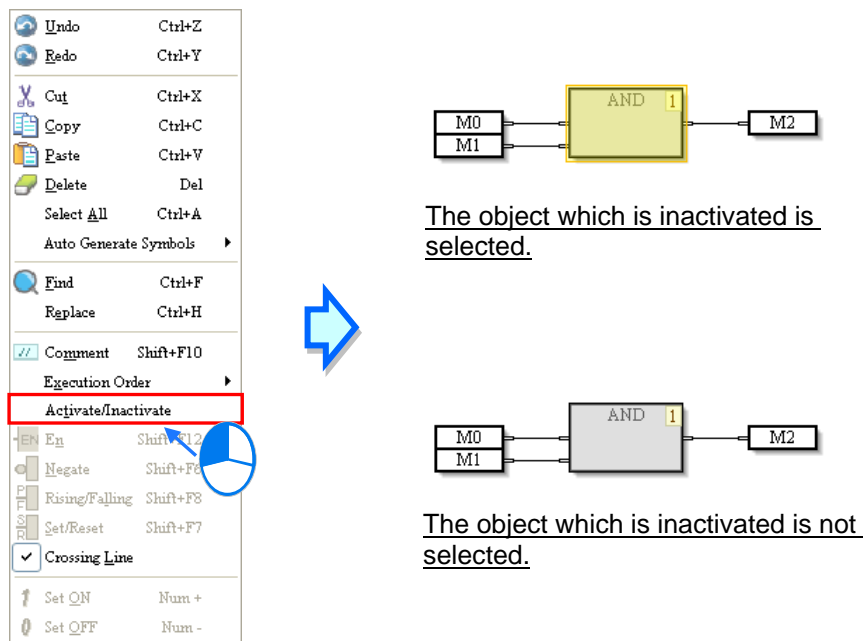

Figure 12-39 Object which is inactivated
- (2) After the users click **Activate/Inactivate** on the context menu which appears, the object will be in a dark color, as shown in figure 12-39.